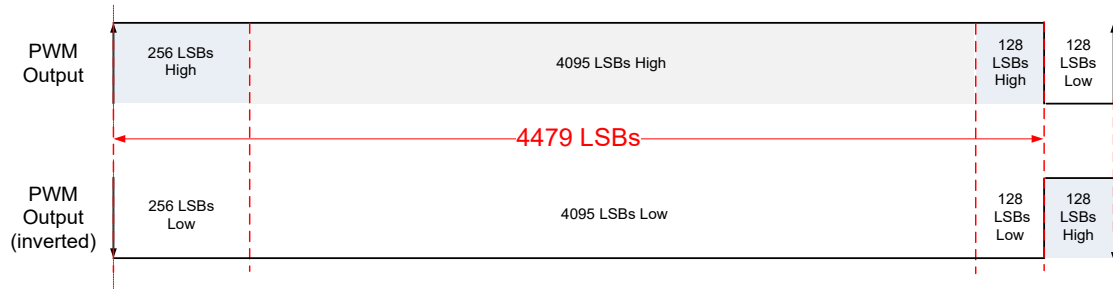
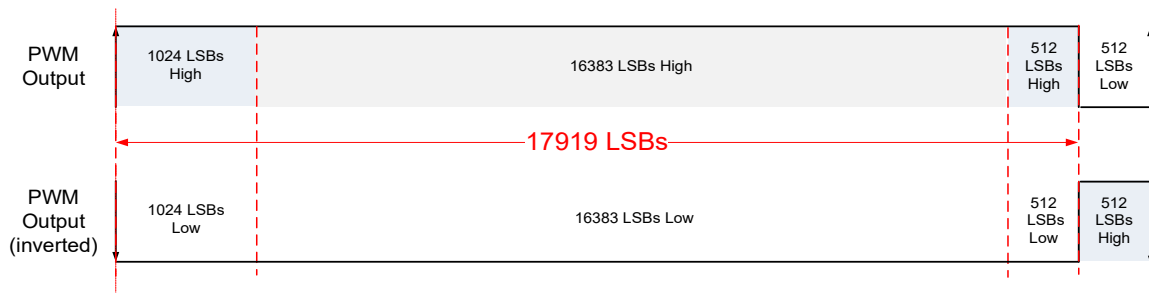

Figure 23. 12-bit PWM signal in Diagnostics High mode
Figure 25. 14-bit PWM signal in Diagnostics High mode
- Diagnostic High mode, see Figure 23 and Figure 25.